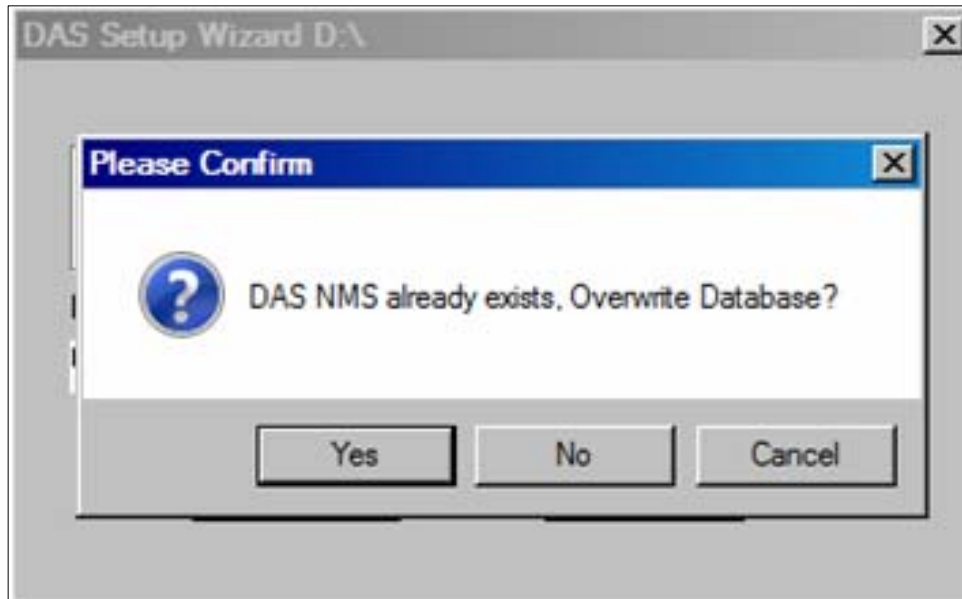

Figure 4-43. Replace NMS File
4. The CD will begin the install wizard and ask if the user would like to overwrite the older NMS version, **Figure 4-43**.